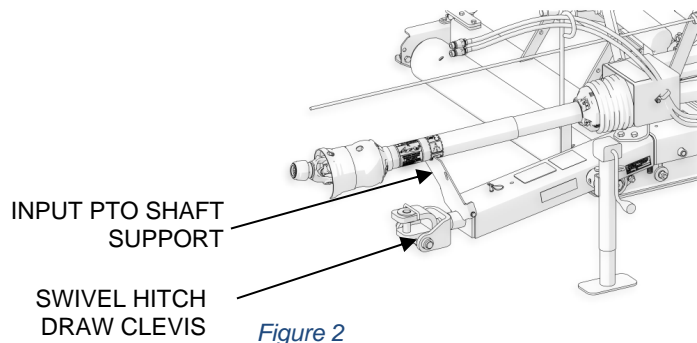

Figure 2
- 9) The TDR-X is equipped with a PTO support to aid in connecting the mower to the tractor. Once the PTO shaft is connected to the tractor, fold the PTO shaft support down onto the frame and secure it with the supplied cotter pin before operating – **DO NOT LEAVE SUPPORT IN UPRIGHT POSITION.** See Figure 2 page19